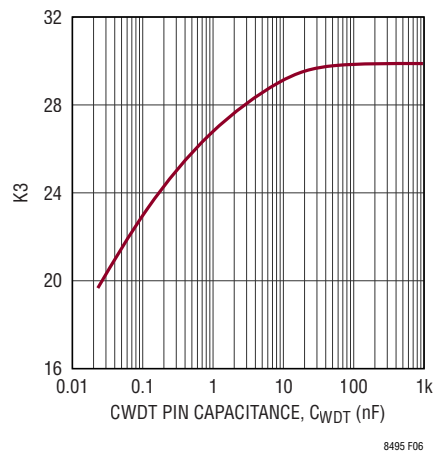

Figure 6. Upper and Lower Boundary Ratio
**Selecting the Watchdog Timing Capacitor:** The watchdog timeout period is adjustable and can be optimized for software execution. The watchdog upper and lower boundary timeout periods ( $t_{WDU}$  and  $t_{WDL}$ ) are adjusted by connecting a capacitor,  $C_{WDT}$ , between the CWDT pin and ground.  $t_{WDU}$  is typically  $30 \cdot t_{WDL}$  for large  $C_{WDT}$  values (greater than about 50nF). For lower values this ratio reduces as shown in Figure 6.